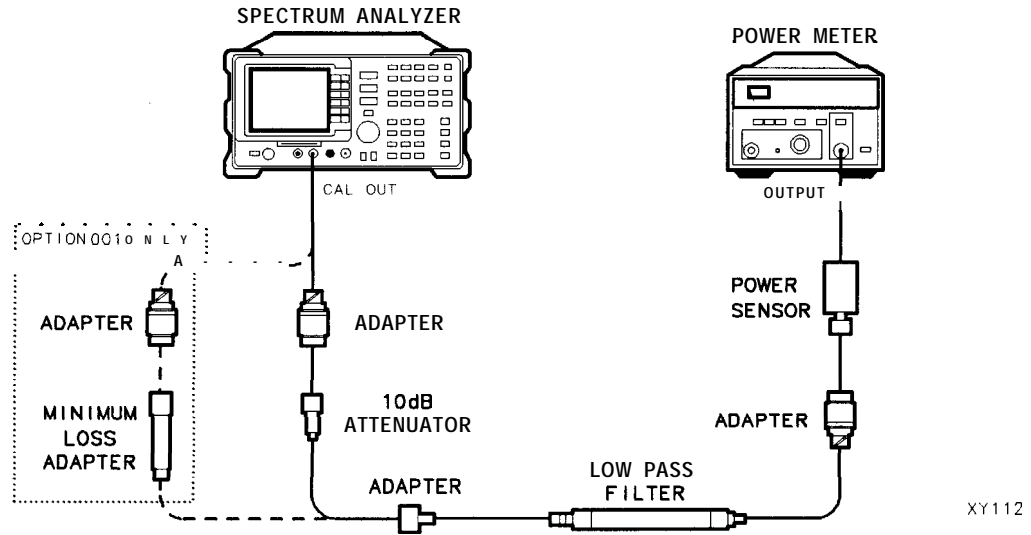

Figure I-11. Calibrator Amplitude Accuracy Test Setup
11. Connect the equipment as shown in Figure I-11. The spectrum analyzer should be positioned so that the setup of the adapters, LPF, and attenuator do not bind. It may be necessary to support the center of gravity of the devices.